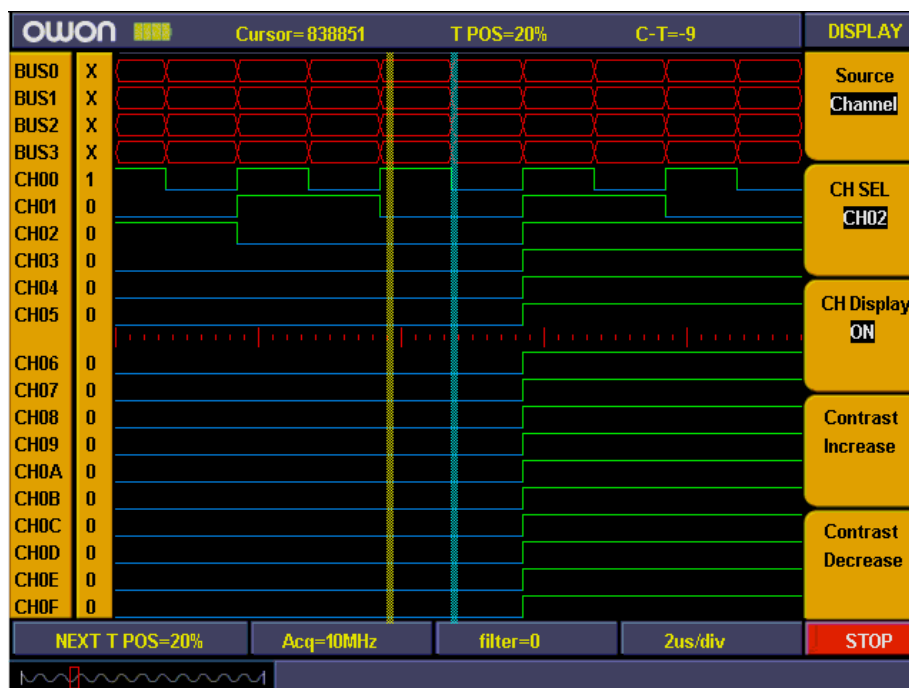

Fig.4-13
4. Press “**F3**” and set the signal sources as “**ON**”. Repeat operation of steps 3.4 and set CH01, CH02 as “**ON**” and CH03-CH0F as “**OFF**”. Refer to Fig.4-13